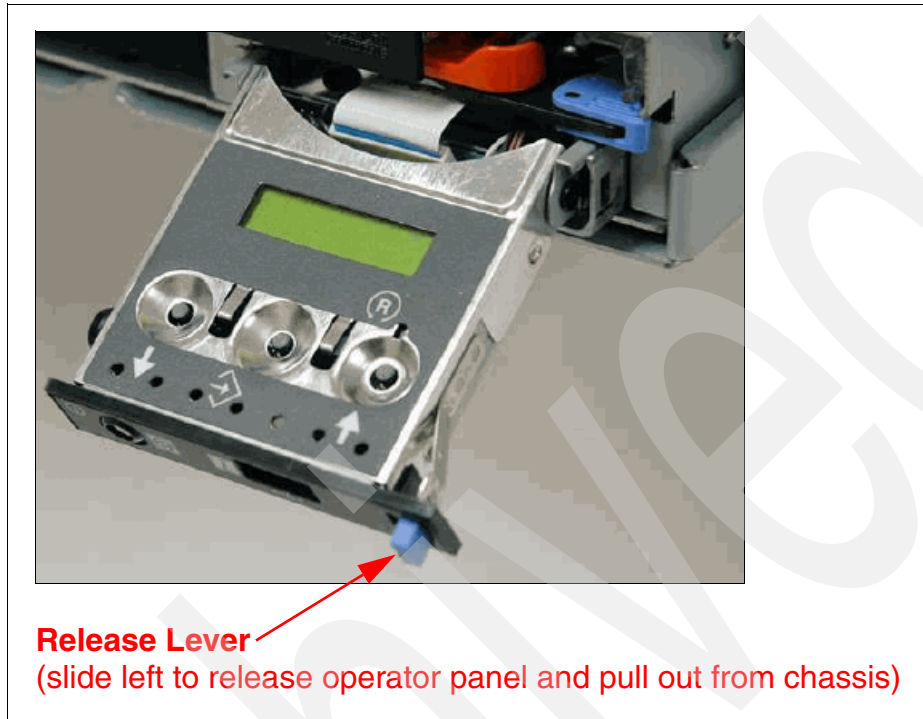

Figure 4-6 Operator panel is pulled out from the chassis
- ▶ By pulling it out to access the switches and view the LCD display. Figure 4-6 shows that the operator panel on a Power 720 and Power 740 is pulled out.